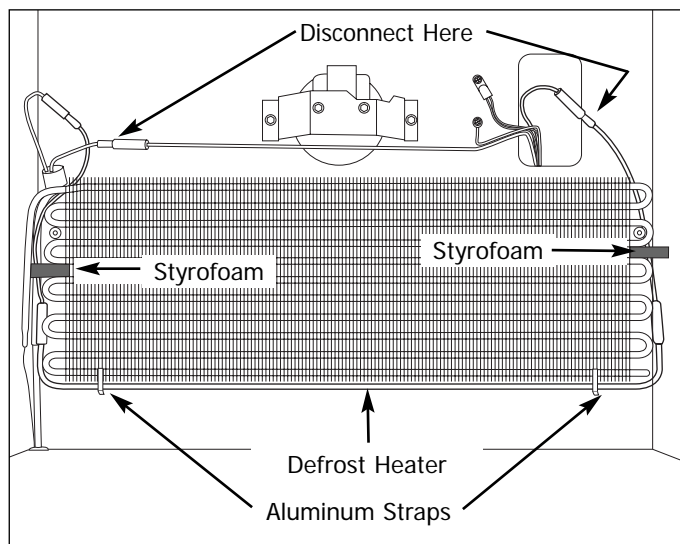

Figure 5-19. Defrost Heater Removal
The defrost heater is secured with two aluminum straps to the bottom tube of the evaporator assembly. (See Figure 5-19)
4. Disconnect the defrost heater wire leads from the wire harness. (See Figure 5-19)